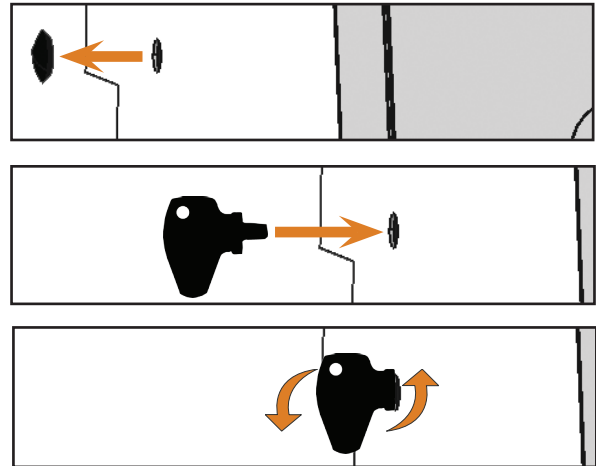

FIG. 24: USING THE KEY FOR THE EMERGENCY RELEASE
- M2. Remove the protective cap from the emergency release opening at the left side of the machine (☞ Fig. 24, top).
- M3. Insert the key for the emergency release of the working chamber door through the opening at the left side of the machine. (☞ Fig. 24, middle).
- M4. Deactivate the safety interlock of the working chamber door by turning the key counter-clockwise by 90° (☞ Fig. 24, bottom).
- M7. Reactivate the safety interlock of the working chamber door by turning the key for the emergency release clockwise by 90° (☞ Fig. 24, bottom).